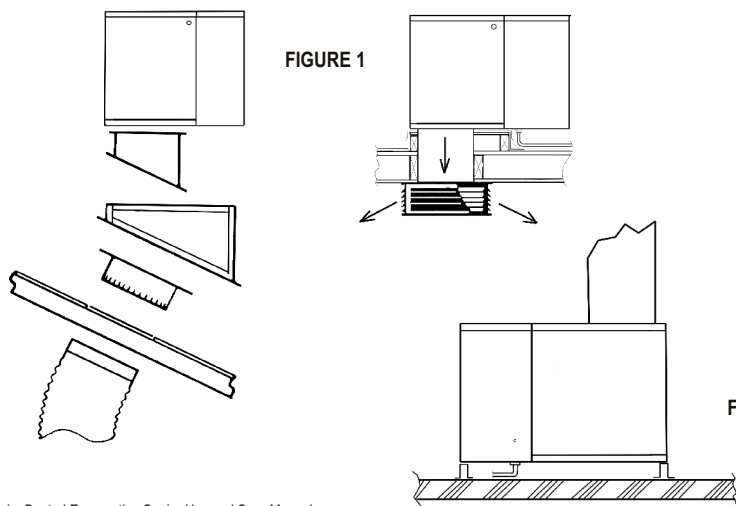

FIGURE 1
Your cooler may be a down (TD), horizontal (TH) or up (TUP) discharge model. Down discharge coolers are designed for installation on either flat or pitched roofs (see Fig. 1). Horizontal discharge coolers are designed for installation on the side of a building or, using a 90-degree transition duct, on a flat or pitched roof (see Fig. 2). Up discharge coolers are designed for ground level installation, mounted on a slab (see Fig 3). Evaporative air-cooling systems (down, side or up discharge) can be connected to a duct distribution system with outlet registers for each area to be cooled.